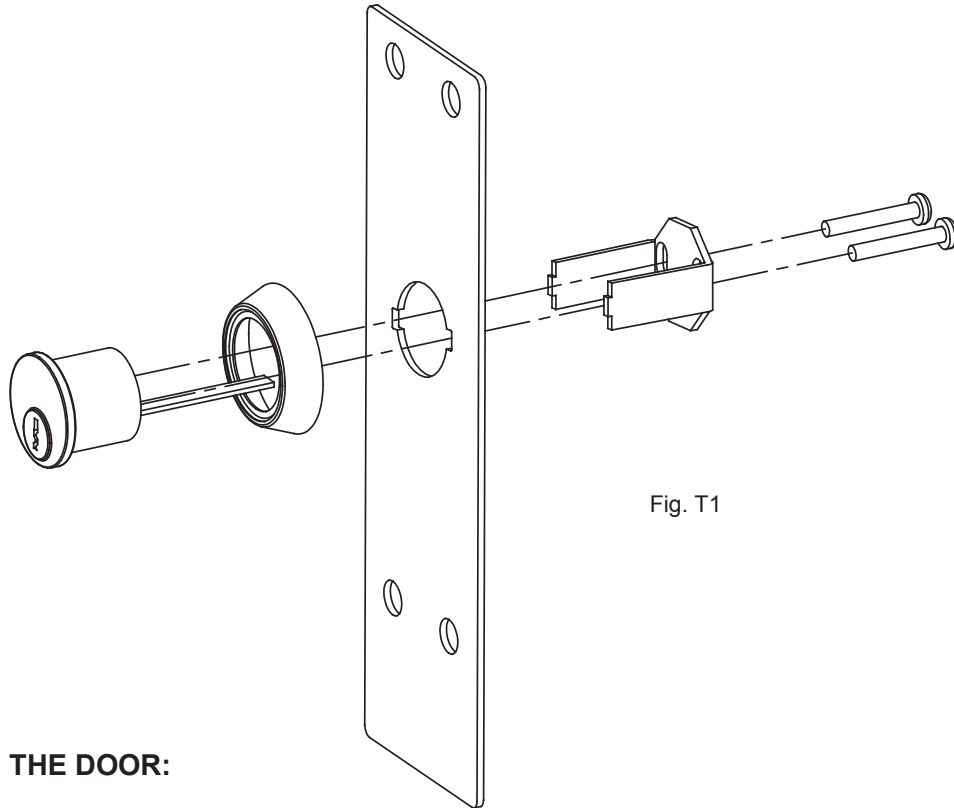

Fig. T1
1. Assemble the cylinder bracket and cylinder as shown (Fig. T1). Cut cylinder screws as required.